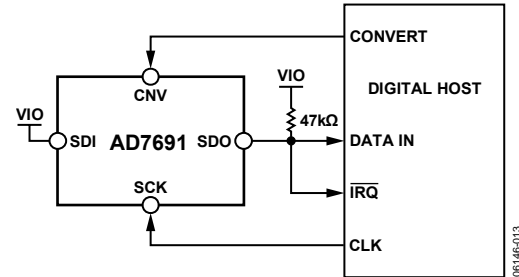
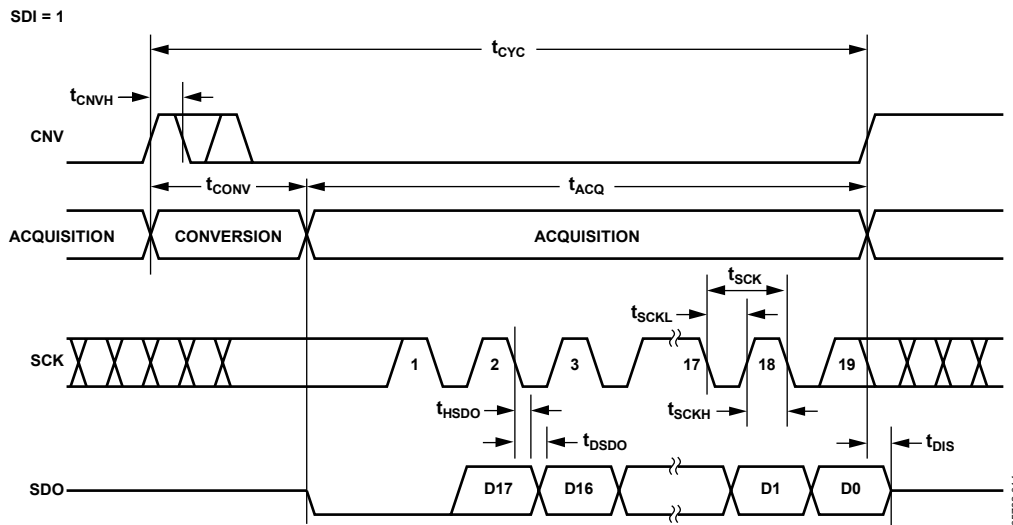
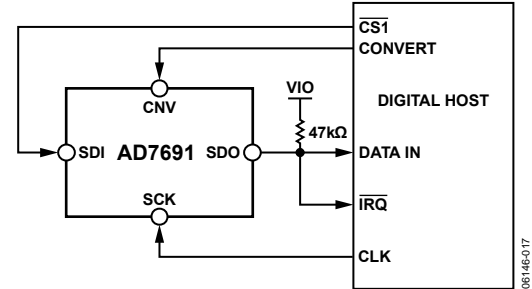
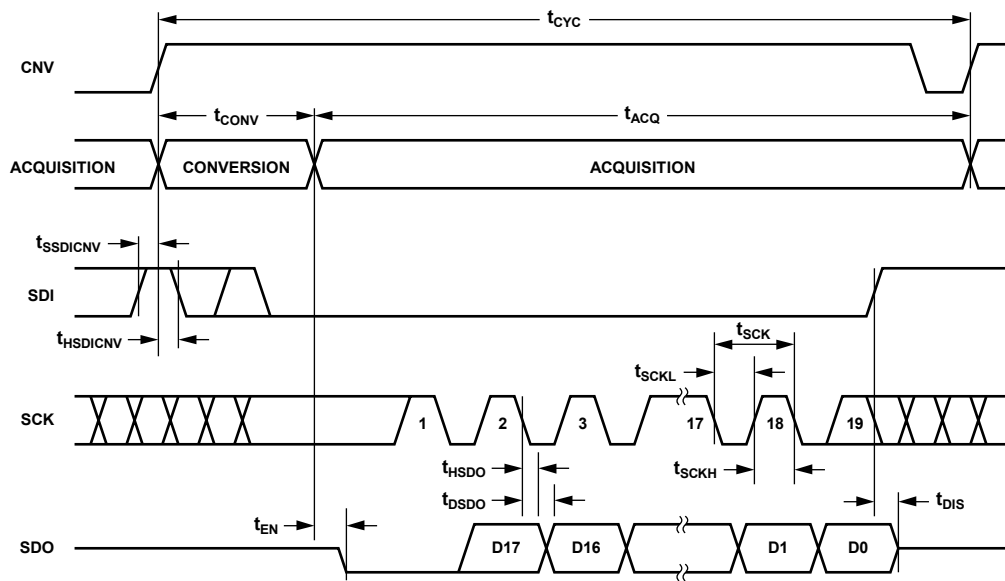

Figure 36. 3-Wire \overline{CS} Mode with Busy Indicator Connection Diagram (SDI High)
Figure 37. 3-Wire \overline{CS} Mode with Busy Indicator Serial Interface Timing (SDI High)
Figure 40. 4-Wire \overline{CS} Mode with Busy Indicator Connection Diagram
Figure 41. 4-Wire \overline{CS} Mode with Busy Indicator Serial Interface Timing
- In the $\overline{\text{CS}}$ mode if CNV or SDI is low when the ADC conversion ends (see Figure 37 and Figure 41).
The connection diagram is shown in Figure 36, and the corresponding timing is given in Figure 37.
The connection diagram is shown in Figure 40, and the corresponding timing is given in Figure 41.